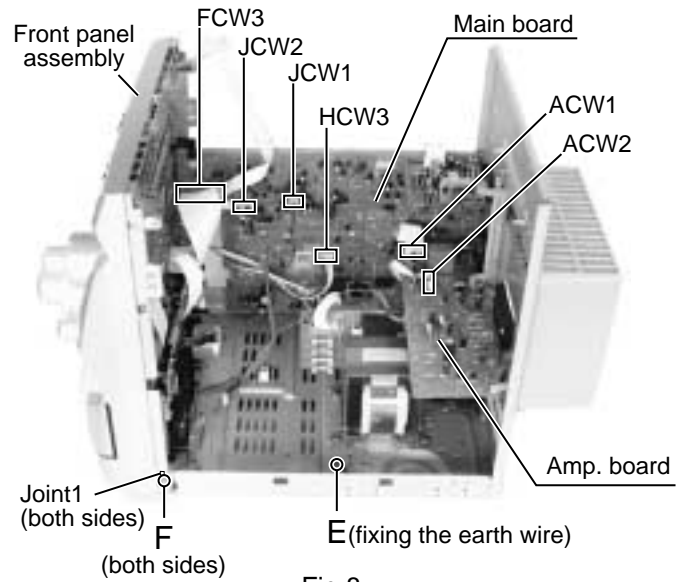

Fig.8
■ Removing the front panel assembly (See Fig.8 to 10)
(See Fig.8, 11 and 12)